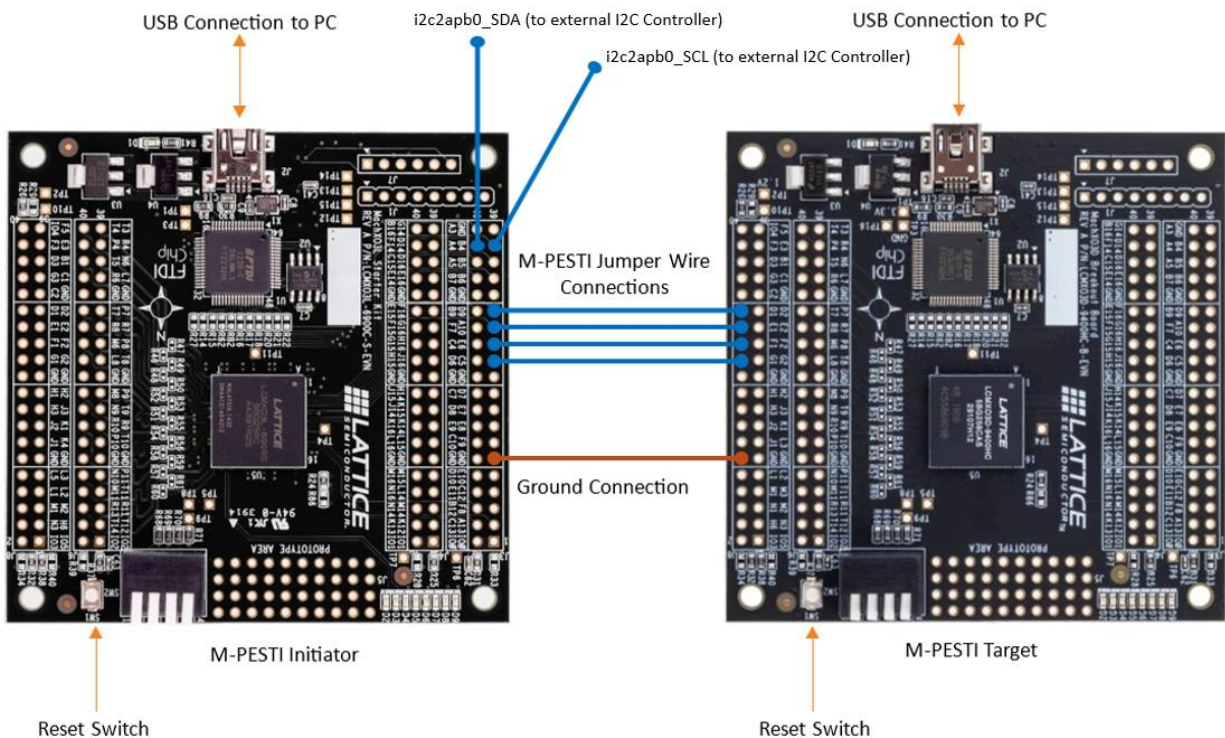
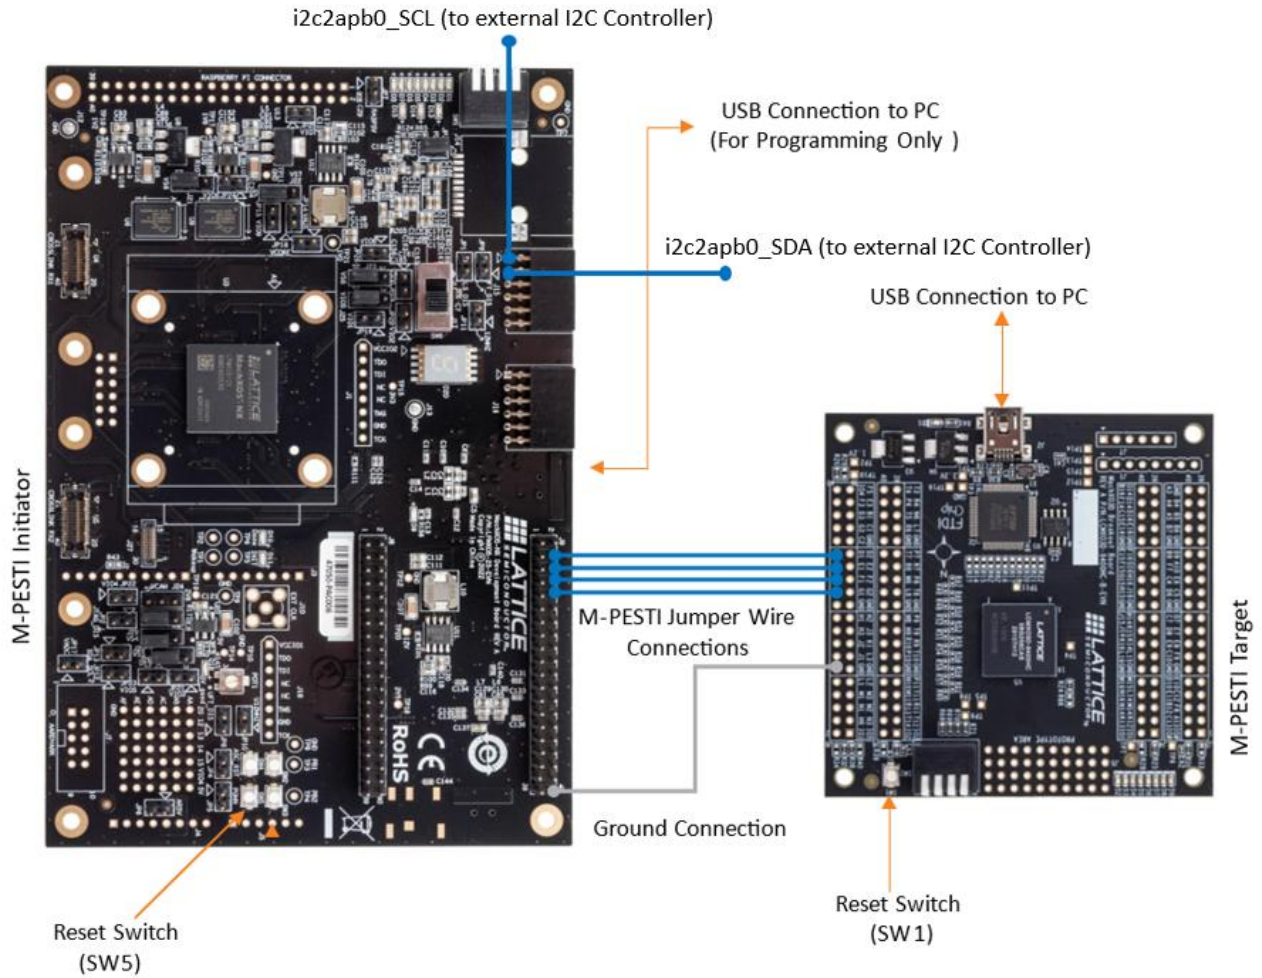

Figure 5.1. Hardware Connections between MachXO3LF and MachXO3D Devices
Figure 5.2. Hardware Connections between MachXO5-NX and MachXO3D Devices
In Figure 5.1, the board on the left is the MachXO3LF Starter Kit, acting as the M-PESTI Initiator, while the board on the right is the MachXO3D Breakout Board, acting as the emulated M-PESTI targets.
Figure 5.2 shows wherein the initiator is using MachXO5-NX Development Board.
- The M-PESTI Initiator board and the target module board are connected as described in Figure 5.1 or Figure 5.2 as applicable